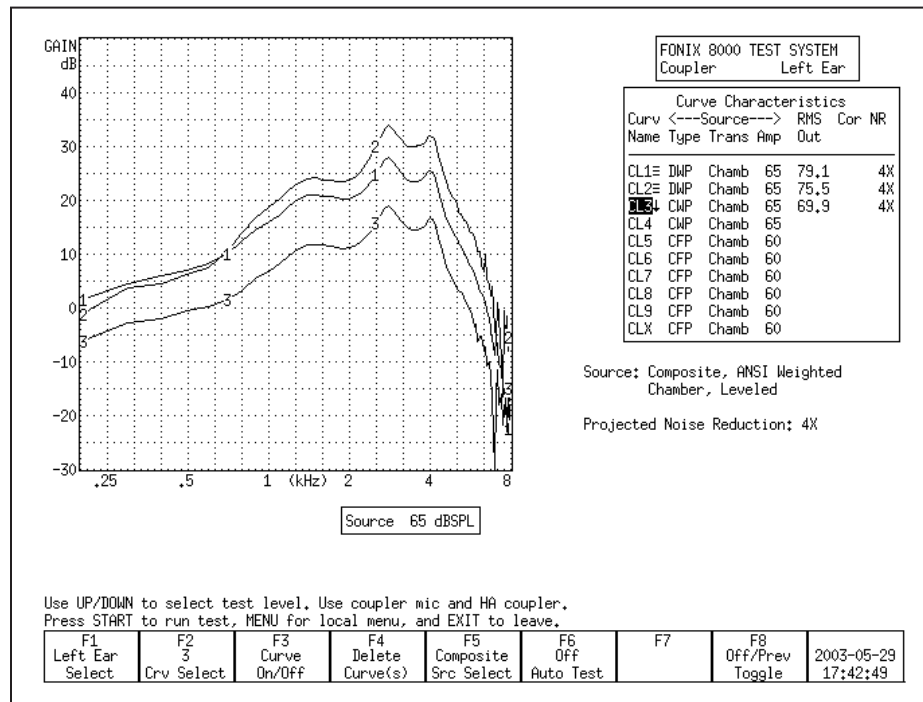

Figure 3.5.2—Comparison of a digital aid tested with Digital Speech ICRA (CRV1), Digital Speech ANSI (CRV2), and the Composite signal (CRV3).
5. Use [F5] to choose the DIG SPEECH signal source. It will now have the ICRA speech weighting. See Figure 3.5.2 for a comparison of an aid tested with the ANSI and ICRA speech weightings.